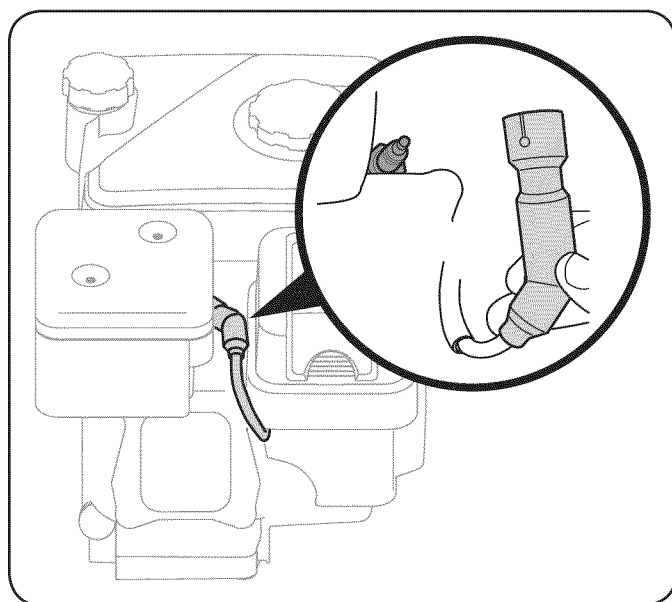

Figure 12
1. Remove the spark plug boot and use a spark plug wrench to remove the plug, Figure 12.